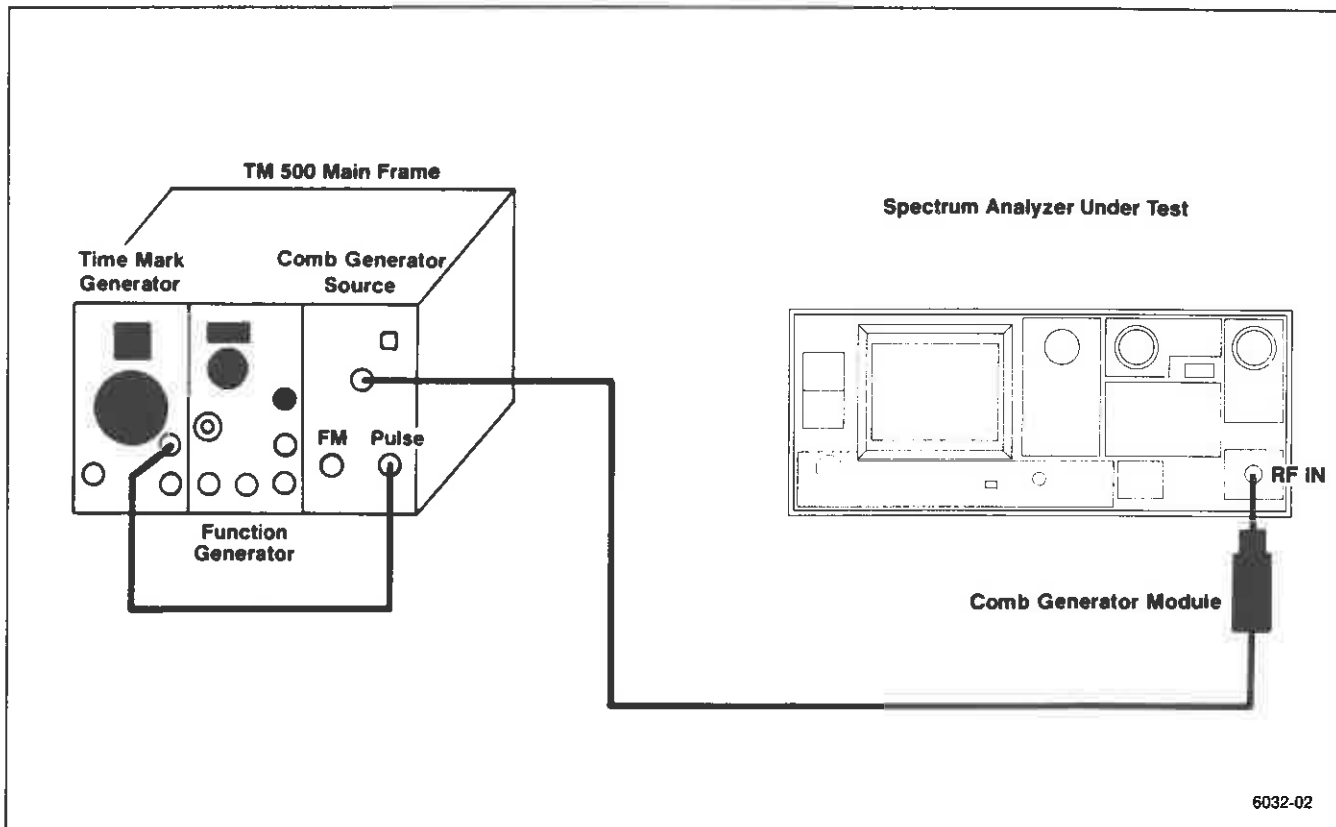

Figure 4-7. Test equipment setup for checking frequency Span/Div and sweep Time/Div accuracy.
c. Remove the CAL OUT signal from the RF INPUT and set up the test equipment as shown in Figure 4-7. Set the CENTER FREQUENCY to 10 GHz, SPAN/DIV to 500 MHz, RESOLUTION BANDWIDTH to AUTO, and REF LEVEL to -10 dBm. Peak the response with the MANUAL PEAK control and set REF LEVEL for the best
f. Modulate the Comb Generator signal with 10  $\mu$ s markers, from the Time Mark Generator, by applying the Marker Output to the Pulse Input of the Comb Generator as shown in Figure 4-7. Set the MANUAL PEAK control for optimum marker definition.